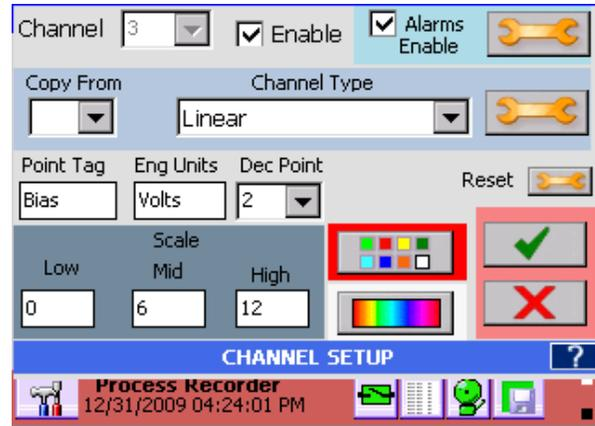

Figure 5-2 Channel Setup
Pressing the **setup** button from the Master Channel Setup window takes you to the Channel Setup dialog window as shown in Figure 5-2. The user can copy an existing channel to this one or set up a new channel including the channel type and range, the point tag, engineering units and assign colors. Values set here will be the default for any widget attached to this channel.
**Scale:** This is used to customize the scale on trends and bar charts to something other than the default. For example in Figure 5-2 above, the Linear 12 volt range has been selected. The scales will default to 0, 6, 12 as shown. If the input range of interest were 5 to 10 volts you could set the low, mid and high scales to 5, 7.5 and 10 respectively.